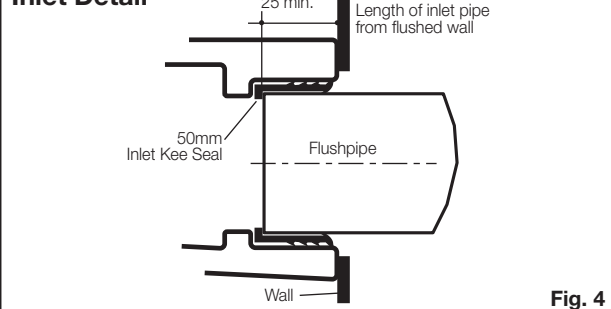

Fig. 4
- 5- Fit keeseal onto inlet pipe, as detailed in **Fig. 4**.
- 7- Fit keeseal onto inlet pipe, as detailed in **Fig. 4**.